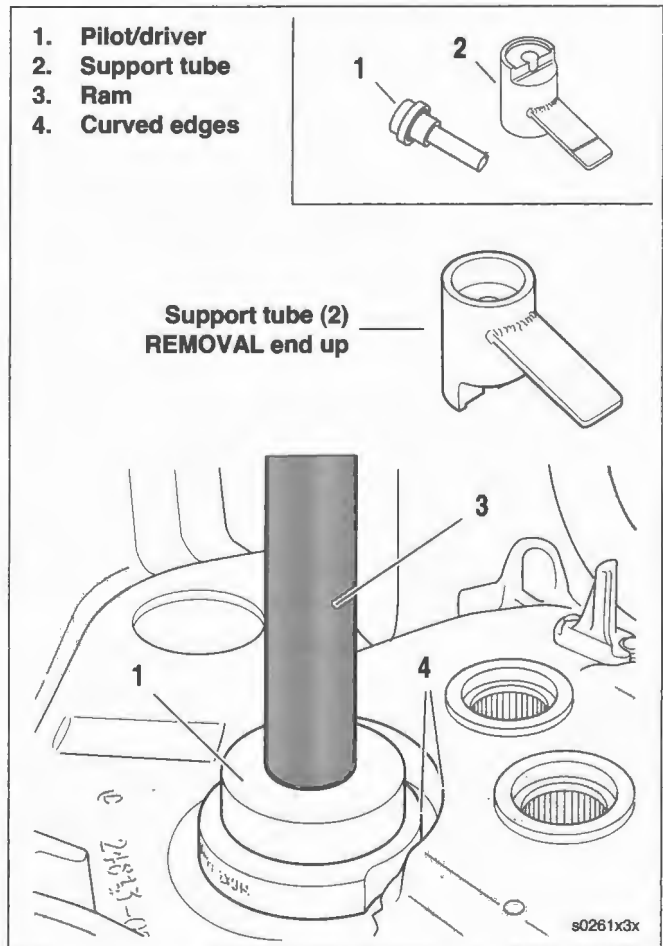

Figure 3-140. Right Crankshaft (Roller) Bearing Removal
1. See Figure 3-140. Obtain CRANKSHAFT BEARING REMOVAL/INSTALL PILOT/DRIVER (Part No. HD-44065-1) and CRANKSHAFT BEARING REMOVAL/INSTALL SUPPORT TUBE (Part No. HD-44065-4).
2. Place support tube (2) on hydraulic press table with the REMOVAL end up. Note that the sides of the support tube are stamped to ensure proper orientation.
3. With the inboard side of the right crankcase half facing upward, position crankshaft bearing bore over support tube. During removal it is important that the curved edges on the pilot/driver (1) match the curved edges of the crankcase (4).
4. Slide pilot/driver (1) through bearing into support tube.
5. Center pilot/driver under ram (3) of press. Apply pressure to pilot/driver until bearing is free.